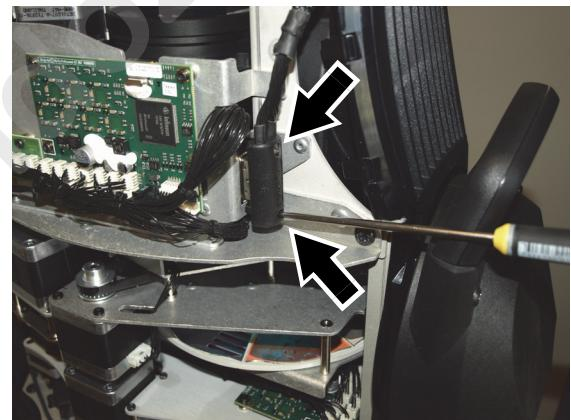

Figure 7
10. See Figure 7. Fasten the multiconnector to the socket with the multiconnector's two screws (arrowed).